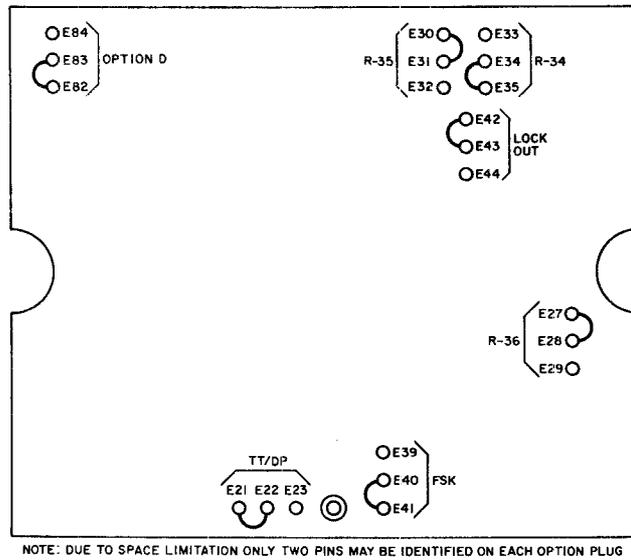

Fig. 4—Main PWB, Option Plug Locations Showing Plug Positions as Shipped
**3.06** It is recommended that at this time the set should be opened (3.07) and all option plugs on main printed wiring board (PWB) checked to insure that they are in their "when shipped" positions as shown by Tables C and D or Fig. 4. Check wiring terminations and if any loose connections are found, reterminate per Fig. 9.
(1) Place the option plugs in their proper positions for the measured loss. As shown in Table C and Fig. 4.
2.0 to 3.9†	E34-E35	E30-E31	E28-E29	(S)	R2	S	(O)	T2	O	-11.5
*Note:* See Fig. 4 for location of option plugs on main PWB.
Note: See Fig. 4 for location of option plugs.